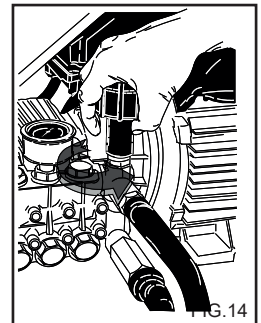

FIG.14
This chapter concerns only those models provided with the "pressure regulating" device. The pressure regulator, fig. 14, allows the operator to adjust the working pressure. When knob C is turned in an anti-clockwise direction (B) (minimum), the working pressure is reduced.